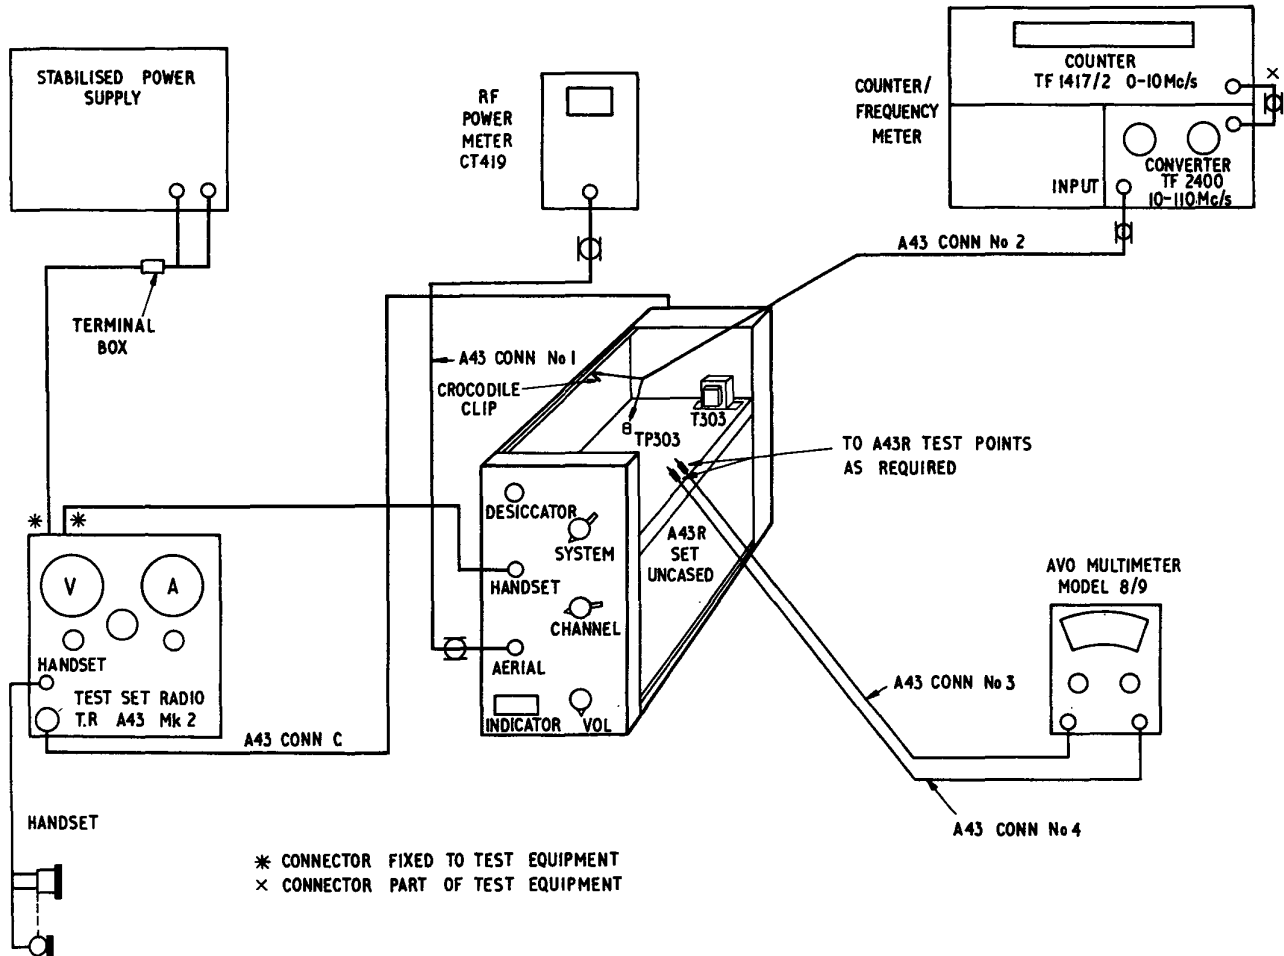

Fig 4 - Transmitter alignment, test layout
- a. Connect the test equipment as detailed in Fig 4.